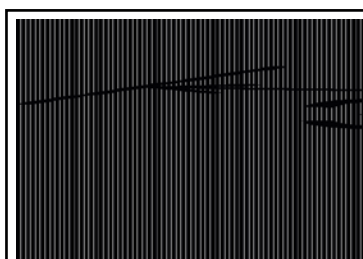

Figure 4. Compressor Unit Clearance
- Clearance around the unit for service is illustrated in Figure 4. However, local codes and applicable regulations take precedence.